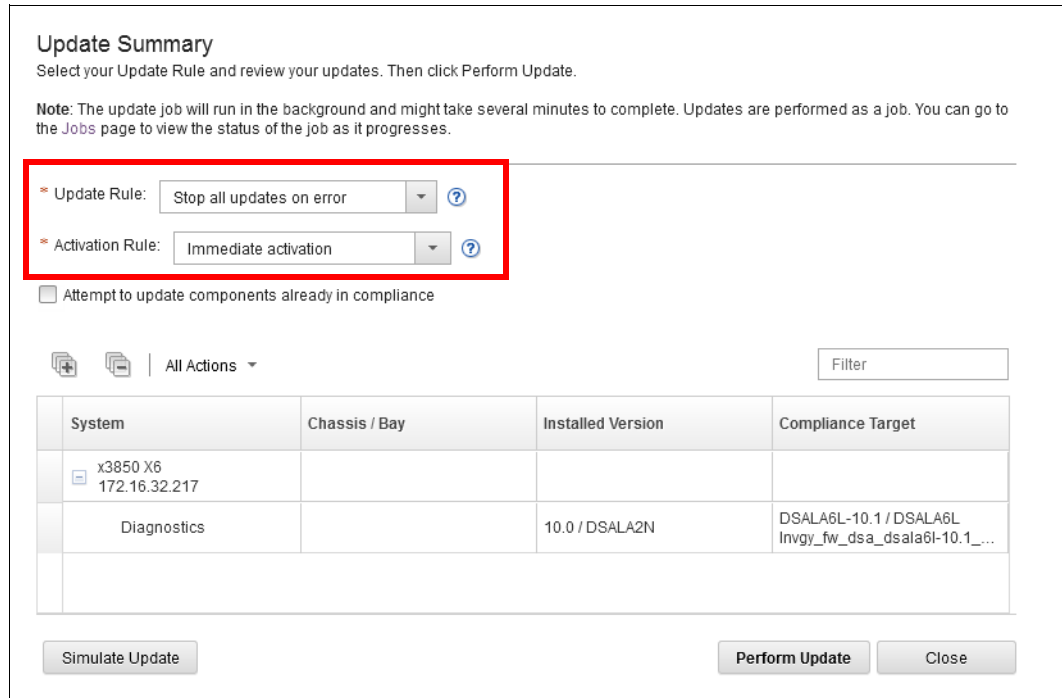

Figure 7-19 Firmware update parameters
3. An Update Summary window opens, in which you can set Update Rules and Activation Rules. As shown in Figure 7-19 on page 257 the Update Rules is set to “Stop all updates on error” and Activation Rules is set to “Immediate activation”, which means an immediate server restart is needed for new firmware activation.